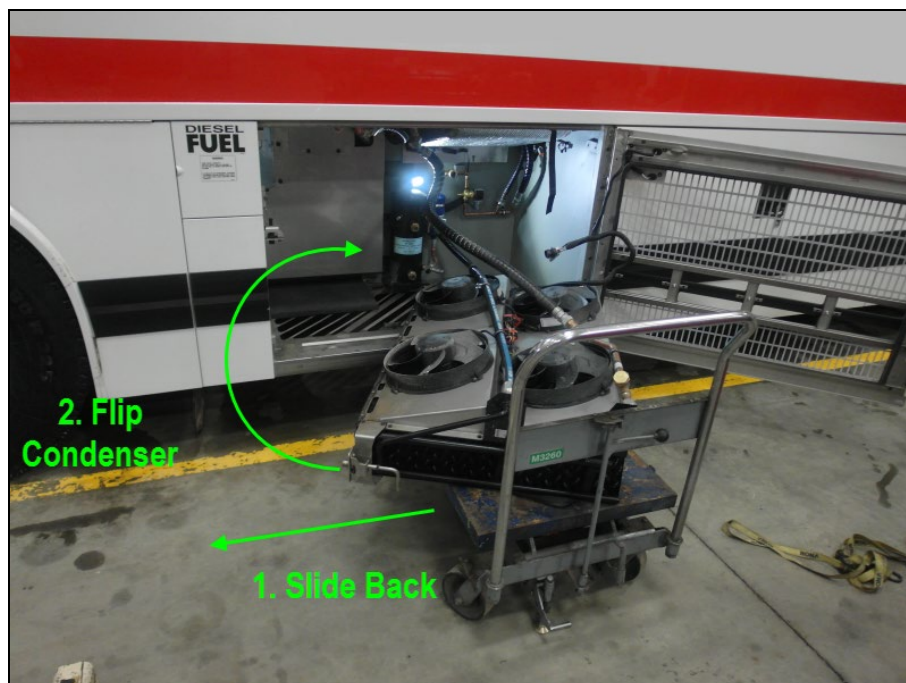

Fig.17
- With the help of a colleague, slightly pull the condenser toward the rear of the vehicle and flip it on its side to gain access to the bottom part of the condenser (Fig.17).